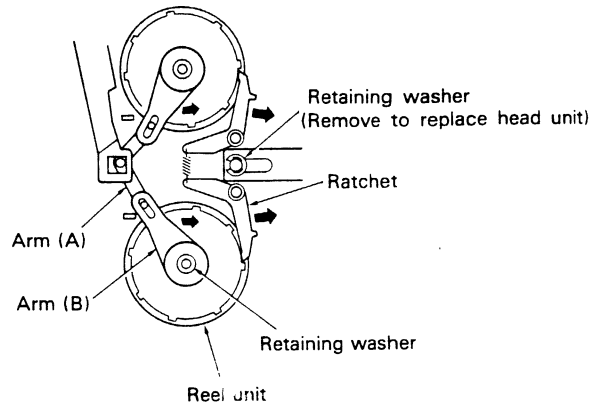

Fig. 4
2. Lift arm (B) (Figure 4), remove it from the pin on arm (A) (Figure 4), and move it in the direction indicated by the arrow (Figure 4). Next, remove the washer retaining the reel unit, and pull the ratchet in the direction indicated by the arrow. The reel unit can now be removed by lifting upward.